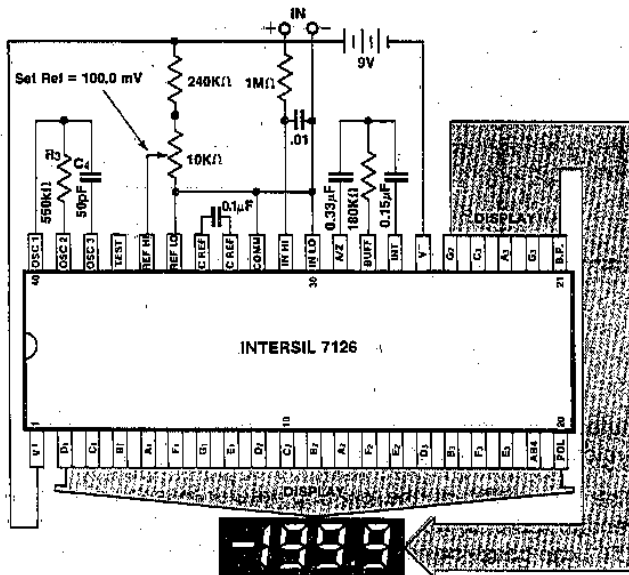

Figure 1: 7126 Clock Frequency 16kHz. (1 reading/sec)
**Note 3:** Unless otherwise noted, specifications apply at  $T_A = 25^\circ\text{C}$ ,  $f_{\text{clock}} = 16\text{kHz}$  and are tested in the circuit of Figure 1.